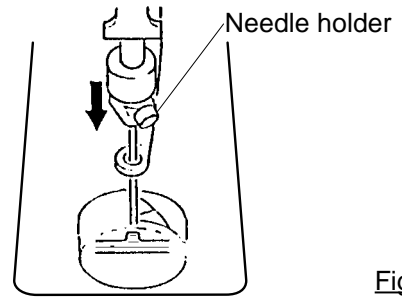

Fig. 4
- Lower the needle holder by pressing down with fingers on Fig. 4.